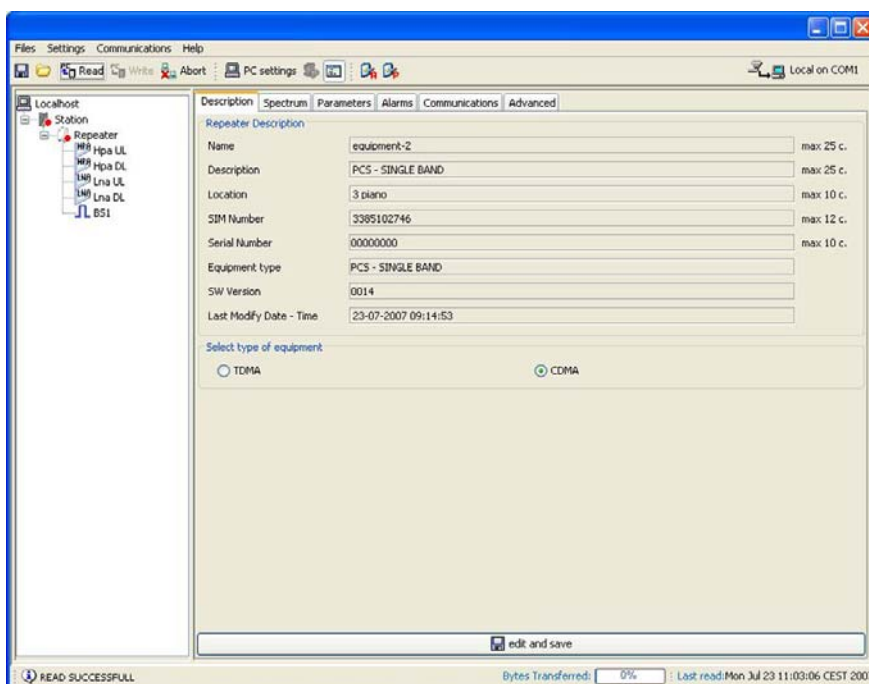

FIGURE 10 – Selection TDMA / CDMA
- b) In the description panel, the user should select (FIGURE 10) if the system is TDMA or CDMA. This selection allows to load the right values of RF power transmitted by the HPAs (only for 800MHz repeaters).